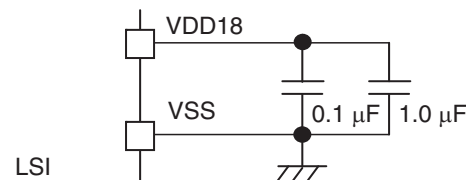

Figure: 5.1 Capacitor Connection between VDD18 and VSS Pins
*3 Connect appropriate capacitor about 0.1 μF + 1.0 μF between VDD18 pin and VSS pin, near the microcontroller according to the Figure: 5.1 shown below for the internal power supply stabilization.